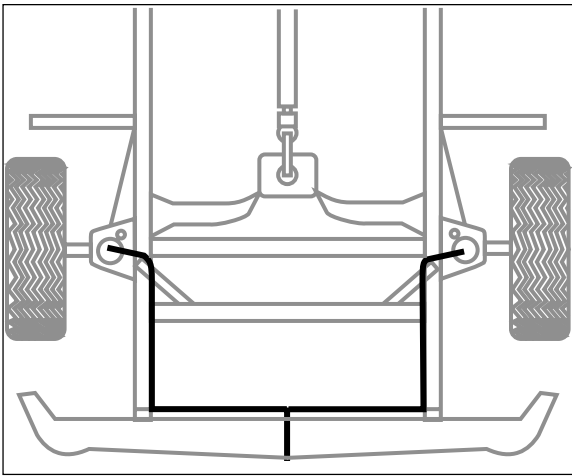

Figure 3 - TEE AIR LINE
- A. Find desired tee location on the frame rail or radiator core support bracket (Figure 3).